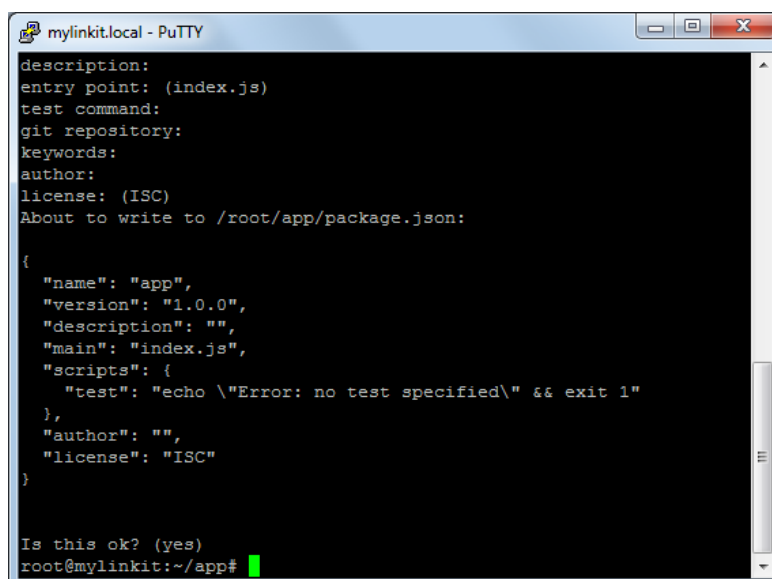

Figure 43 Set up the Node.js application prompt
- 3) After about 10 seconds, you'll be prompted to enter several inputs such as a name for app, version and description etc. as shown in Figure 43. This is a setup process for the Node.js application. For this tutorial, press enter for all questions.